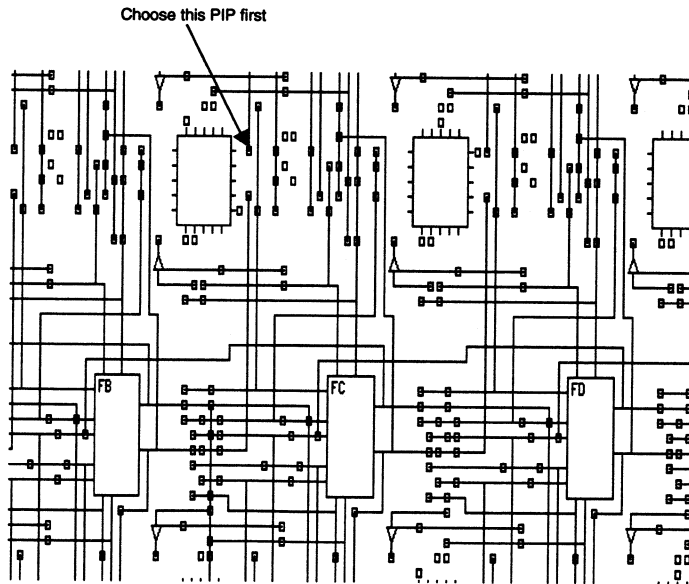

Figure 9-21 Manual Routing — Step 1
7. Click on the first PIP, as illustrated in Figure 9-21.